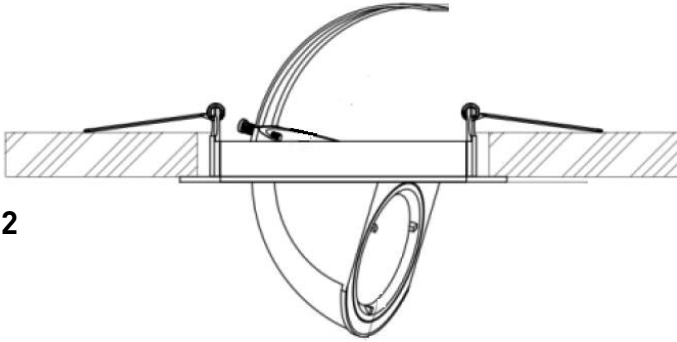

Fig 2
- Install the fitting into the cut-out (see Fig 2)